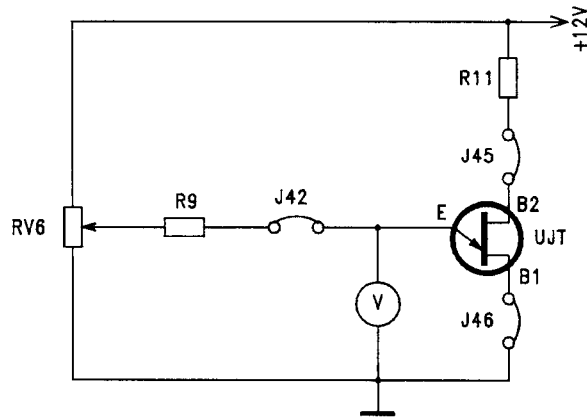

fig.B09.10
- Connect jumpers J45, J46, J42, the voltmeter between emitter and ground to produce the circuit of figure B09.10